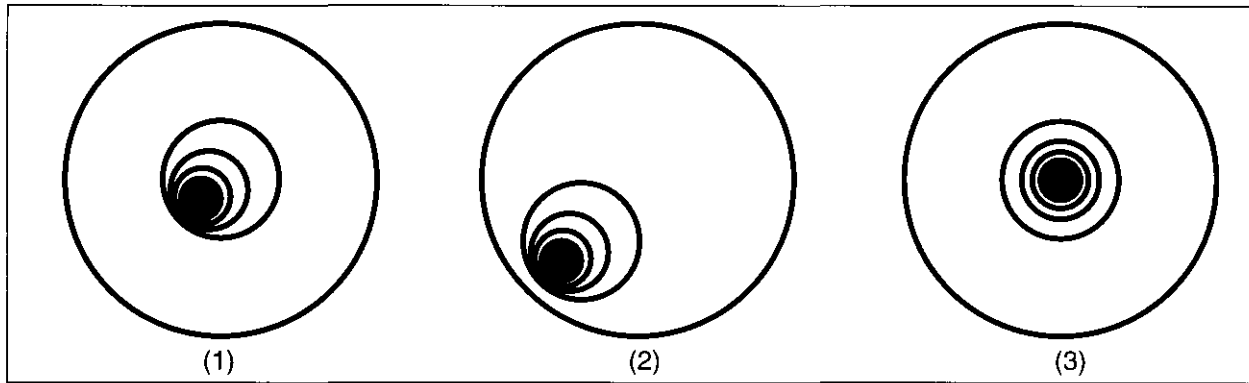

Fig. 27: De-focused Star Images.
- b. While looking at the de-focused star image and noticing which direction the darker shadow is offset in the ring of light or noticing which part of the ring is the thinnest (1, Fig. 27), place your index finger in front of the telescope so that it touches one of the collimation set screws. You will see the shadow of your finger in the ring of light. Move your finger (or an assistants finger) around the edge of the black plastic secondary mirror support until you see the shadow of the finger crossing the thinnest part of the ring of light. At this point, look at the front of the telescope where your (or your assistants) finger is aiming. It will either be pointing directly at a set screw, or it will be between two set screws aiming at the set screw on the far side of the black plastic secondary mirror support. This is the set screw that you will adjust.
- c. Using the telescope's slow motion controls, move the de-focused image to the edge of the eyepiece field of view (2, Fig. 27), in the same direction as the darker shadow is offset in the ring of light.
- f. When you bring the image to center (3, Fig. 27), carefully examine the evenness of the ring of light (concentricity). If you find that the dark center is still off in the same direction, continue to make the adjustment in the original turning direction. If it is now off in the opposite direction, you have turned too far and you need to turn in the opposite direction. Always double check the image in the center of the field of the eyepiece.